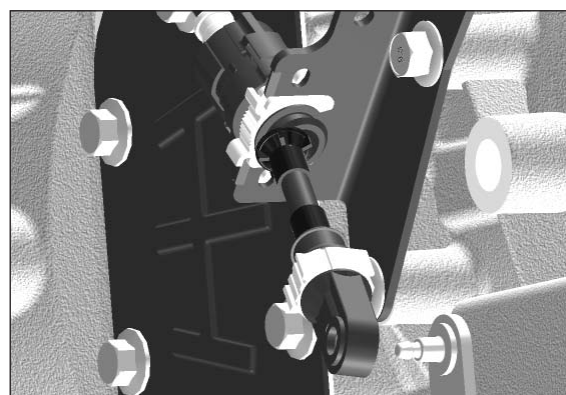

Figure 83
4. Disconnect the selector lever cable from the manual control lever (**Fig. 83**).